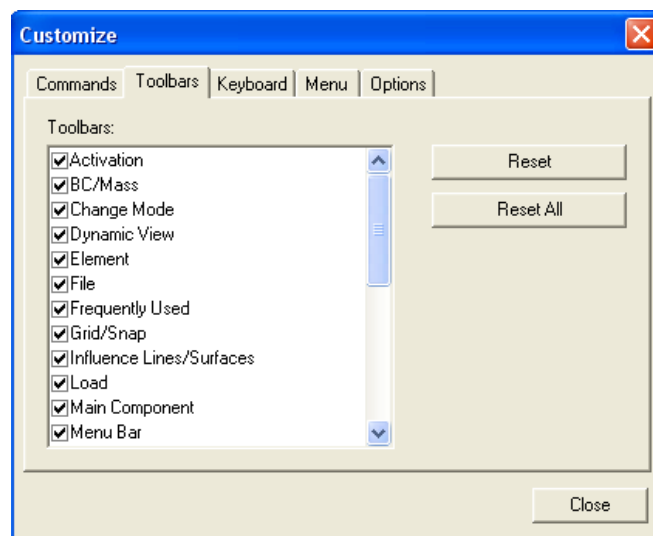

Figure 4.3 Toolbars Dialog Box
2. Check (✓) all the items in the **Toolbars** selection field (Figure 4.3).